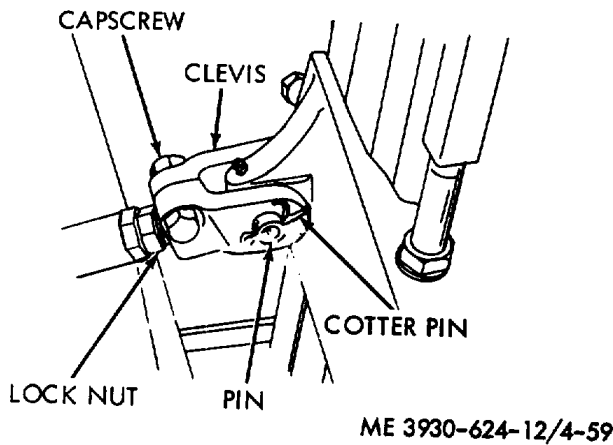

Figure 4-59. Tilt cylinder yoke.
(3) The bubble in the level of the protractor should center if the degree of backward tilt is correct.
(4) If adjustment is necessary, tilt the mast to the forward position and loosen the capscrew on the tilt cylinder clevis. Loosen the hex nut and place a wrench on the adjusting hex on the tilt cylinder rod and, turn in or out of the clevis to obtain the proper adjustment (fig. 4-59). Tighten lock nut.
(5) After each adjustment, check the degree of tilt. When the proper degree of tilt is obtained tighten the capscrews at the yoke.
(6) The forward tilt angle is automatically adjusted when the backward tilt is set.